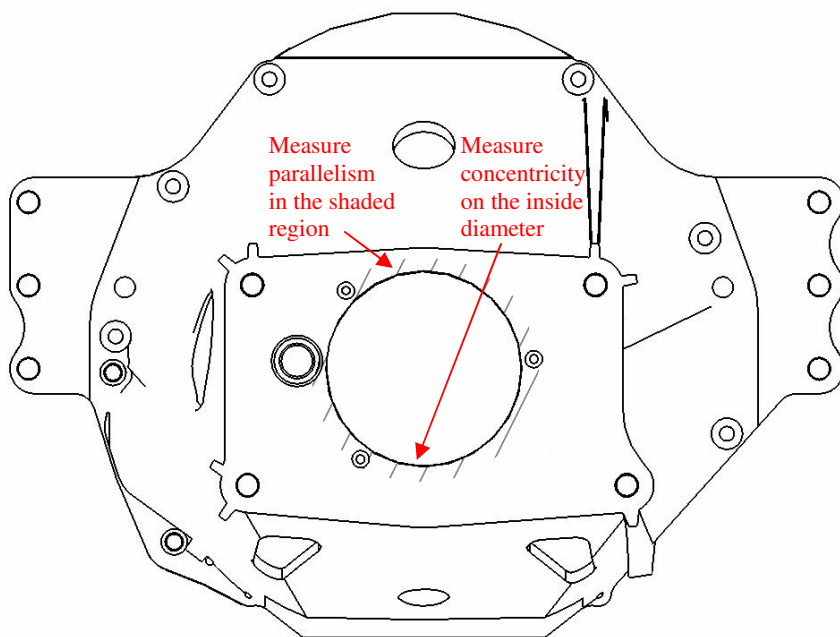

Figure 2: Back view of bellhousing
- With the bellhousing bolted to the engine, check that the transmission mounting face of the bellhousing is parallel to the crankshaft face within .006” total indicated run-out. Clean block mounting surface, making sure that it is free from nicks, burrs, paint, etc. Refer to Figure 2.
- The transmission mounting hole of the bellhousing should be concentric to the crankshaft within .006” total indicated run-out. *The closer, the better.* Refer to Figure 2. If the measurement is not within specification, you will need to relocate the dowel pins in the engine block.